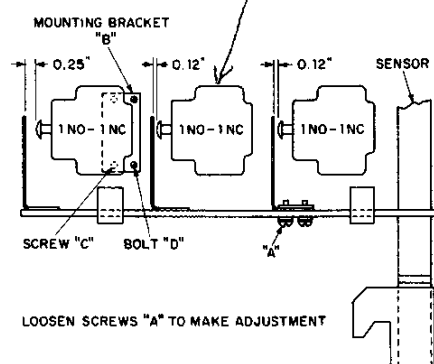

Fig. 41. Adjustments of interlock assembly
5. After sensor bar has been properly located, adjust the gap between the interlock plungers and the depressor brackets as shown in Fig. 41. Slots are provided in the depressor bars to permit adjustment.
An electrical interlock can be replaced by following the steps outlined below (see Fig. 41).